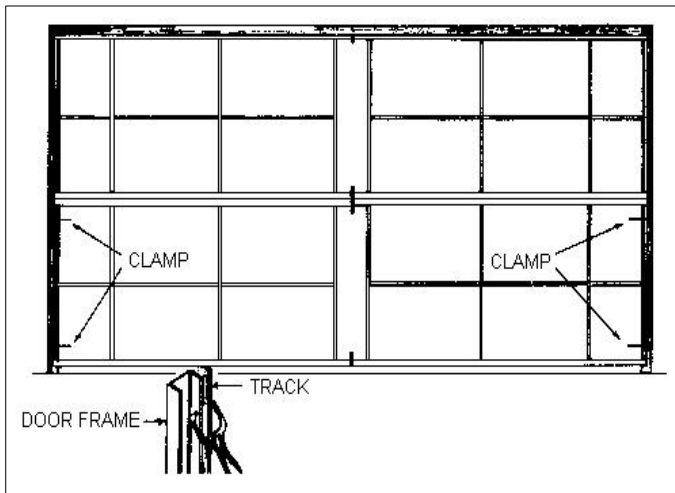

Figure 71 Clamping door to track to hold in place
STEP 1. Clamp door closed at the jamb somewhere around the door lock cam area. **Figure 71, Page 42.**
is aligned with it. (It is assumed the tracks are plumb.) It may be necessary to rack door square by pulling on door whichever direction is needed. This is accomplished in the same manner a building is squared before sheeting. Once squared the door should be clamped to the track to hold it in position until sheeted. **SEE Figure 71 Page 42.** Once the door is sheeted properly, the door will stay in this position and the clamps can be removed.